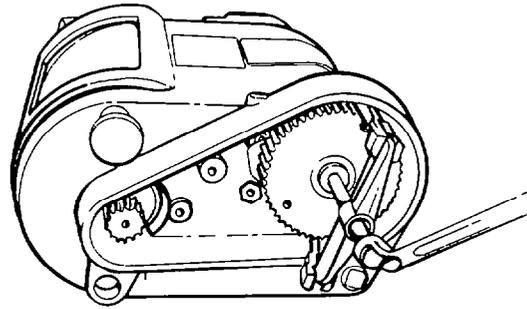

Figure 133 Removing the Worm Wheel
- k. Remove the drive chain from the sprockets; remove the snap ring securing the large sprocket to the shaft of the spindle roller; use a hub extractor or similar tool to remove the sprocket from the shaft (see Fig 133); remove the Woodruff key from the shaft.